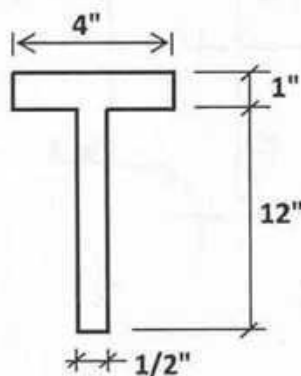

Fig. 4
7. Compute the yield moment and plastic moment capacities and shape factor for major axis bending of the section shown in Fig. 4. Given: $F_y = 36$ ksi. 8 1/3